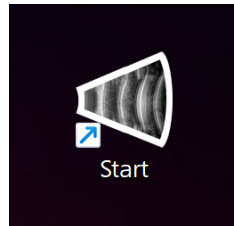

Fig. 6 - VuPad Software Icon
① **Power 'On' System:** By pressing the front panel power switch located on the bottom right side of the unit's front panel.
② **Starting Application:** From Windows desktop, double click on the 'VuMaxHD Software' icon (Fig. 6).